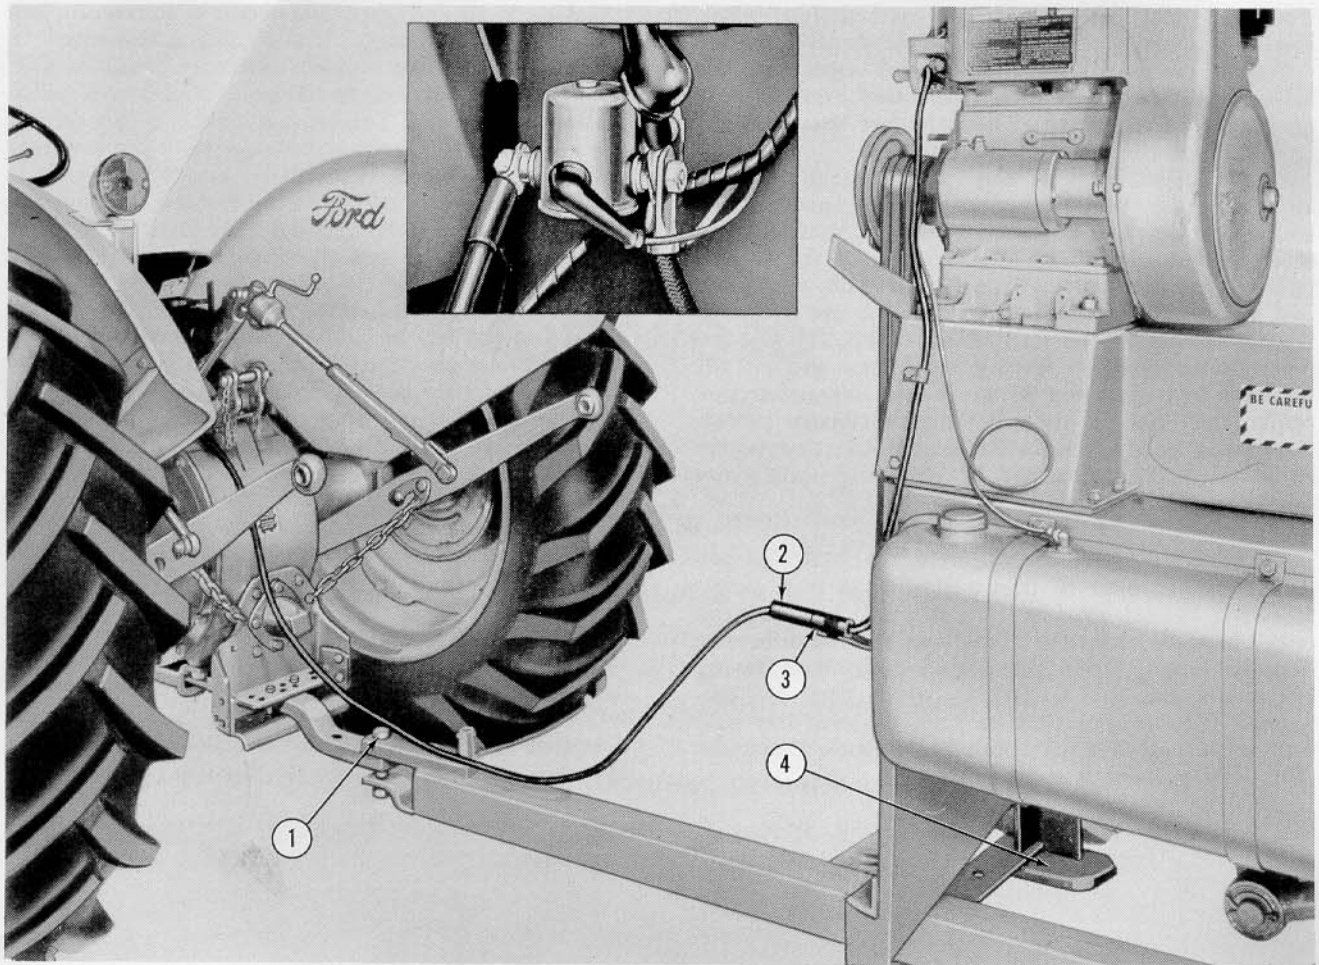

Figure 2
When hitching the engine driven baler to later Series 600, 700, 800 or 900 Ford Tractors equipped (standard) with the swinging drawbar, the drawbar should be adjusted to its shortest position with the offset down as shown in Figure 2. On electric starter units, paint should be removed from the drawbar to
To attach the hay baler to the tractor, raise the tongue to the proper height by means of the jack (4), Figure 2. Back the tractor up to the hitch and secure with a lock pin or bolt and nut (1). If the baler is an electric starter unit, connect the starter cable (2) to the connector (3) on the baler and to the tractor starter solenoid as shown in the insert. Raise the jack to the transport position as shown and secure by installing the hair pin through the jack stand above the ratchet mechanism.